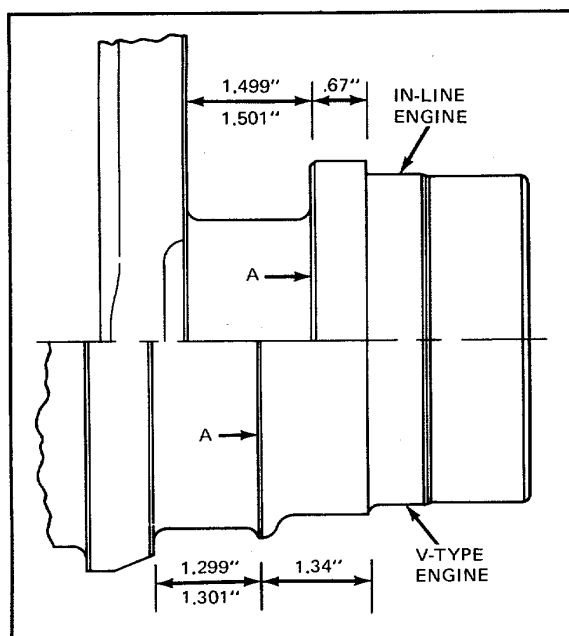

Figure 8. Standard Dimensions at Crankshaft Thrust Surfaces - In-Line and V-Type Engines
6. If the thrust surfaces of the crankshaft (Fig. 8) are worn or grooved excessively, they must be reground and polished. Care must be taken to leave a 0.130 to 0.160-inch radius on the inline crankshaft between each thrust surface and the bearing journal.
If the crankshaft thrust surfaces were reground, it may be necessary to install oversize thrust washers on one or both sides of the rear main journal. Refer to Fig. 8 and Table 2.